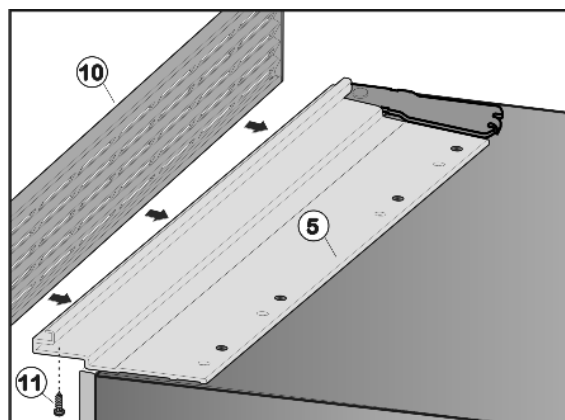

Fig. 39
- Position ventilation grille *Fig. 39 (10)* over the installation contour *Fig. 39 (5)* and align it such that the holes in ventilation grille and installation contour are above each other.
- Screw ventilation grille *Fig. 39 (10)* to installation contour *Fig. 39 (5)* from below using three screws *Fig. 39 (11)*.